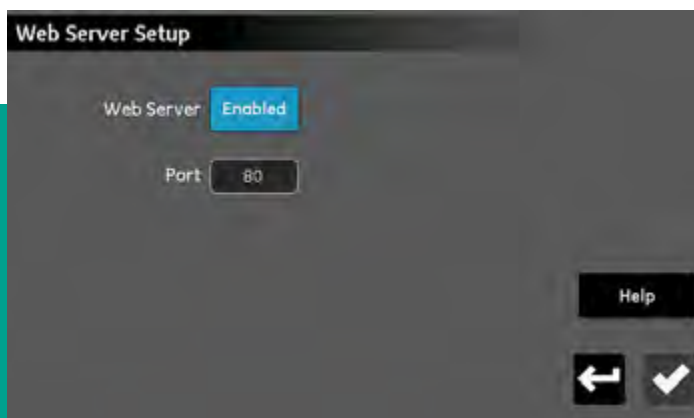

Figure 73: Web server setup screen
1. From the *configuration menu* screen (see *figure 52* on page 59), tap the **web server** button to open a *web server setup* screen similar to *figure 73* below.